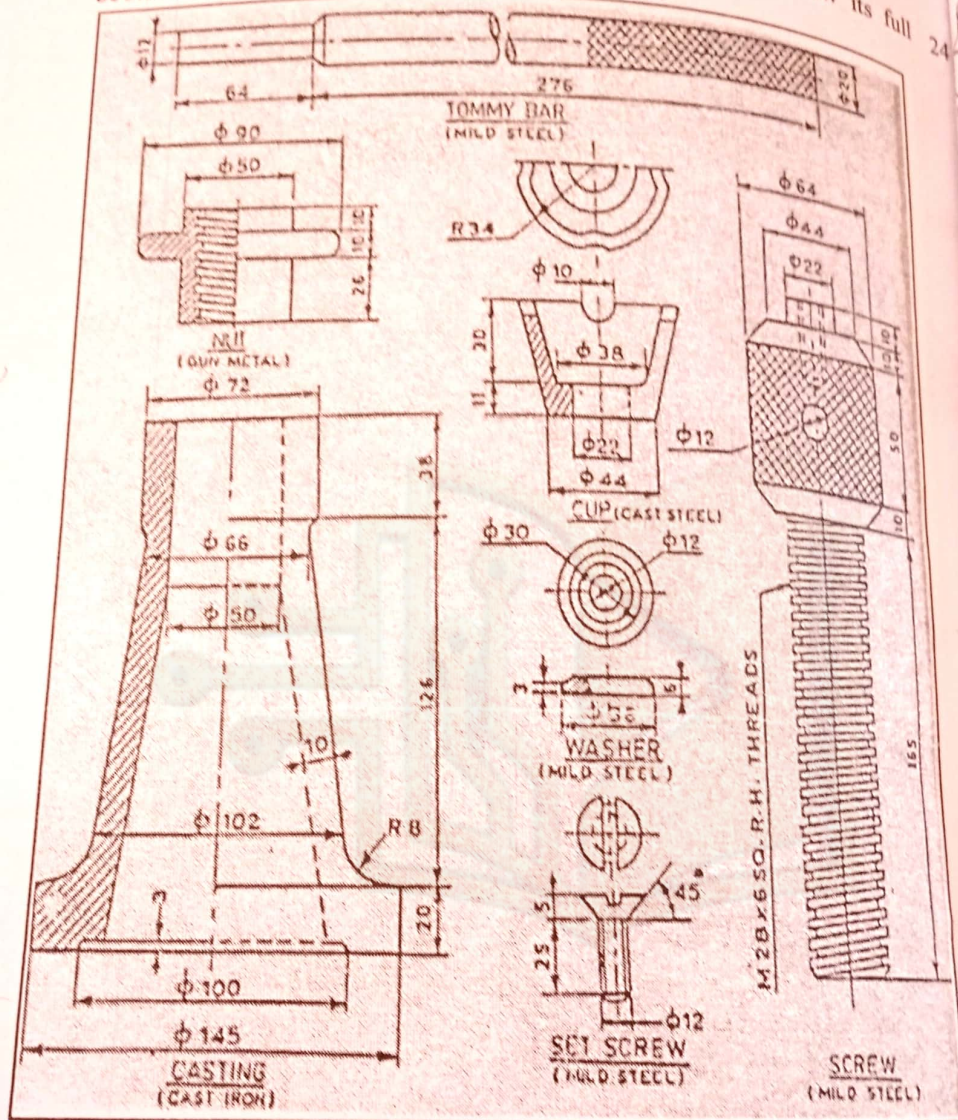

Figure 4
5. Assemble the given parts of the Screw Jack and draw its full sectional (orthographic) front view. (figure 4)